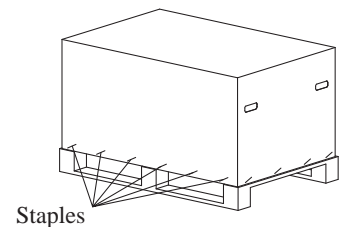

Fig 4-1-1
- 1) Place chair carton close to installation location. Remove all the staples fixing the carton to pallet, or cut the carton just above the stapled line, and remove the carton. (See Fig 4-1-1)